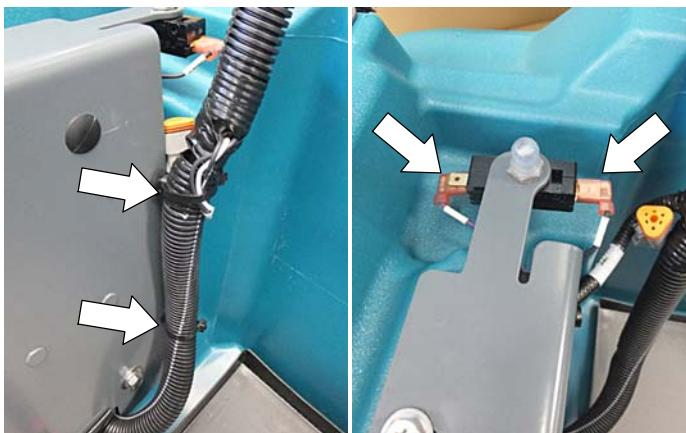

Fig. 2
4. Cut the two cable-ties that secure the main wire harness to the metal electrical panel. Then disconnect the two wires from the safety switch as shown (Figure 2).